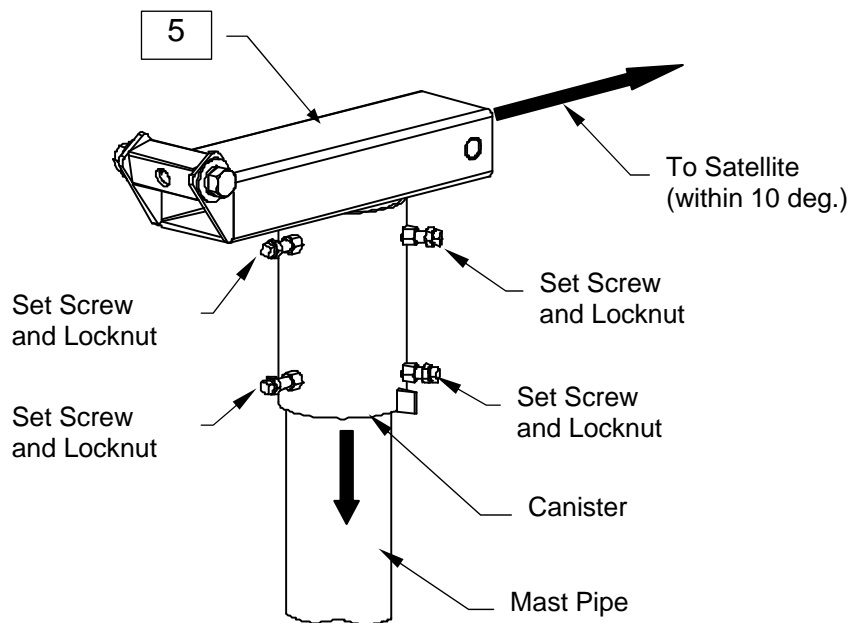

Figure 2: AZ / EL Positioner
- The AZ/EL positioner must be oriented correctly to allow fine azimuth adjustment, before tightening the positioner to the mast pipe, point the positioner within 10deg of the satellite heading as shown in Figure 2 below.